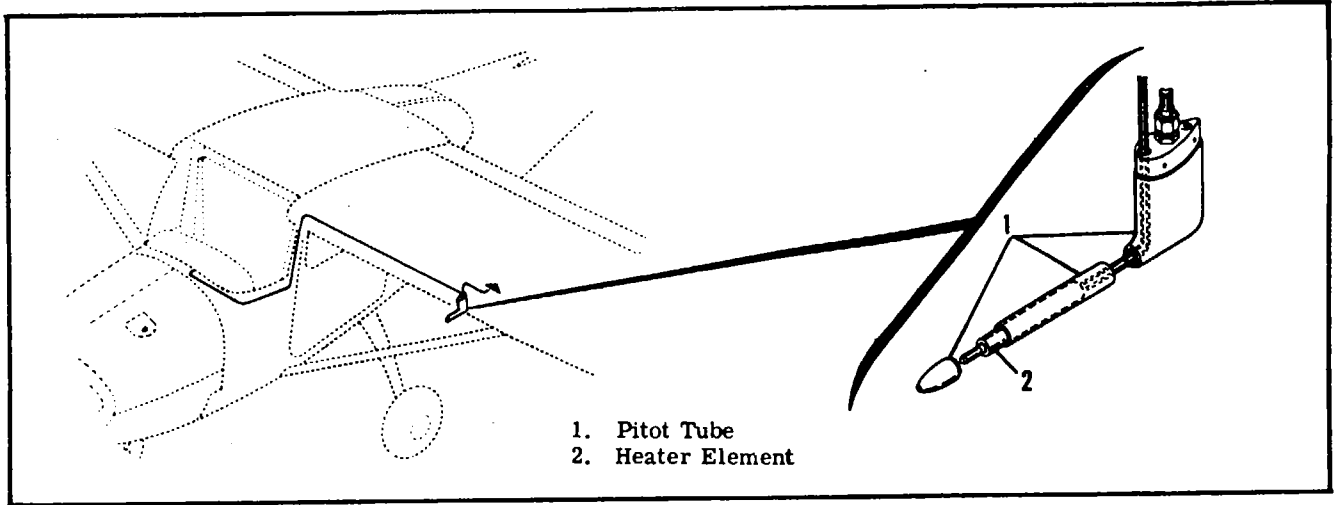

Figure 16-12. Pitot Heater Installation
**16-58. PITOT HEATER.** An electrical heater unit is installed in some pitot tubes. The heater offsets the possibility of ice formations on the pitot tube. The heater is integrally mounted in the pitot tube and is operated by a pull type switch on the instrument panel. (See figure 16-12.)
**16-59. REMOVAL AND REPLACEMENT OF PITOT HEATER.** For removal and replacement of the pitot heater refer to figure 16-12.